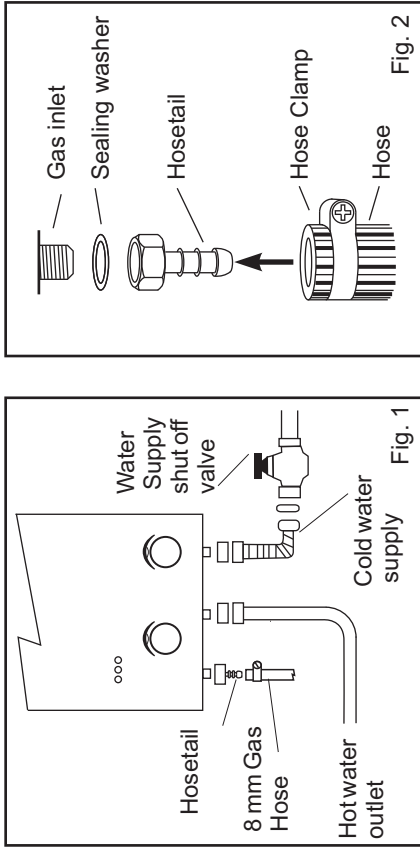

Fig. 1
- For details of the hose connection at the water heater refer to Figs. 1 & 2. Note that the hose must be securely clamped to the regulator outlet using a metal hose clamp. Do not use plastic hose clamps or cable ties for this purpose.
- For details of the gas connection points to the appliance, refer to Fig.1. Note that the gas supply must be connected to the left hand connection point on the bottom of the heater.